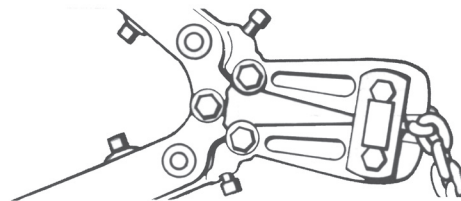

Figure 12. Cutting Chain with a Bolt Cutter
3. Use a bolt cutter (Figure 12) similar to the H.K. Porter No. 0590MTC with special cutter jaws for cutting hardened chain (1 inch [25.4 mm] long cutting edge).